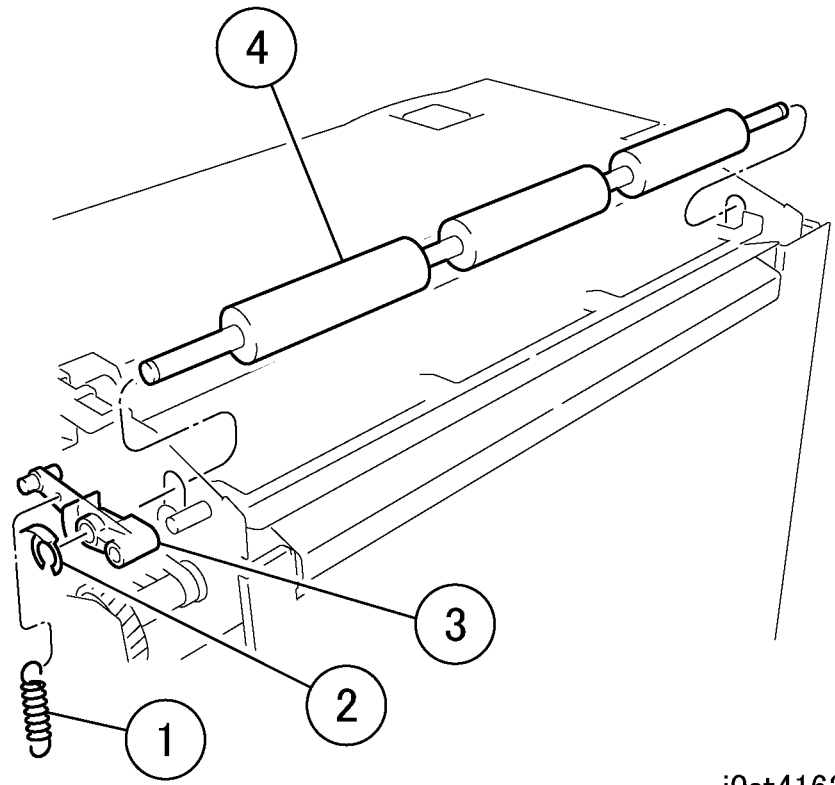

Figure 3 Removing the Decurler Roll Assembly
4. Remove the Decurler Roll Assembly. (Figure 3)